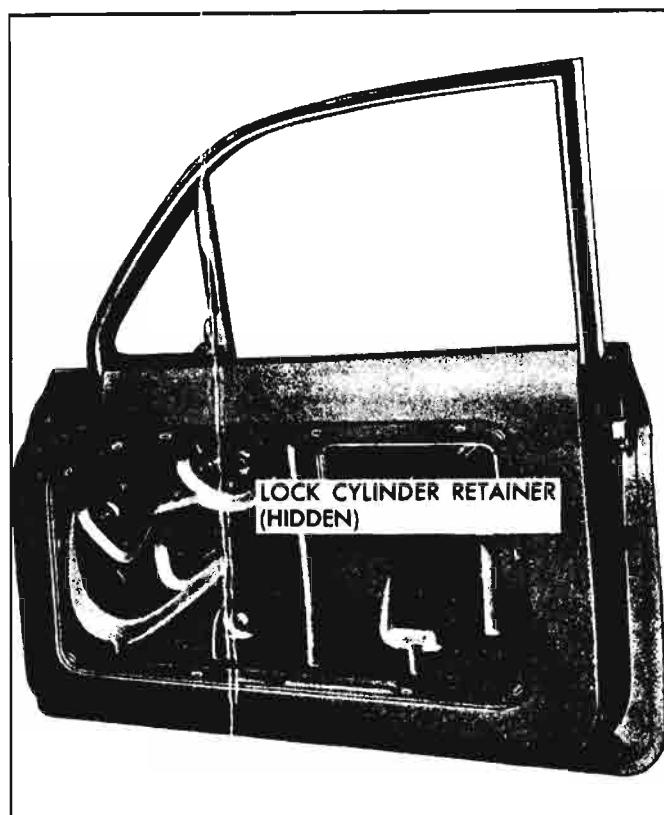

Fig. 10-55—Front Door Lock Cylinder Retainer Location
2. With a suitable tool through inner panel access hole, pry out lock cylinder retaining clip (fig. 10-55) sufficiently to allow removal of cylinder, then remove cylinder and gasket.